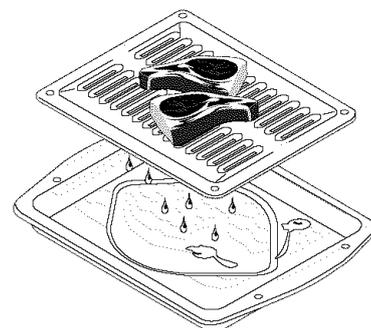

Fig. 1 (some models)
5. Place the insert on the broil pan (if equipped), then place the food on the insert (if equipped; See Fig. 1).